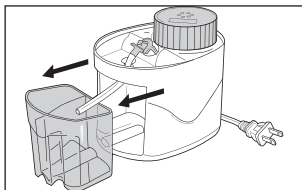

Fig. 4
6. Remove the secondary fill tank, Fig. 4.